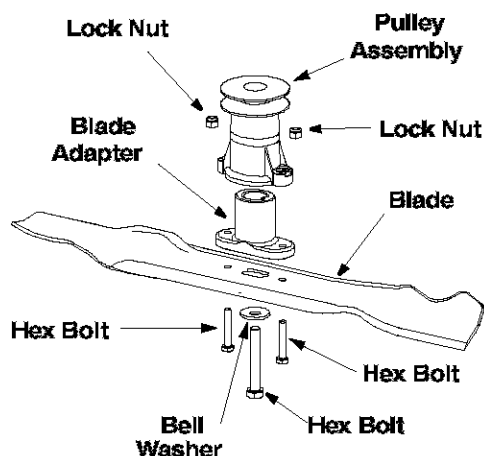

Figure 13
- Remove the bolt and the bell washer that hold the blade-pulley assembly to the engine crankshaft. See Figure 13. Remove the assembly from the crankshaft.
- Install the blade adapter on the pulley with the "star" away from the pulley. See Figure 13.